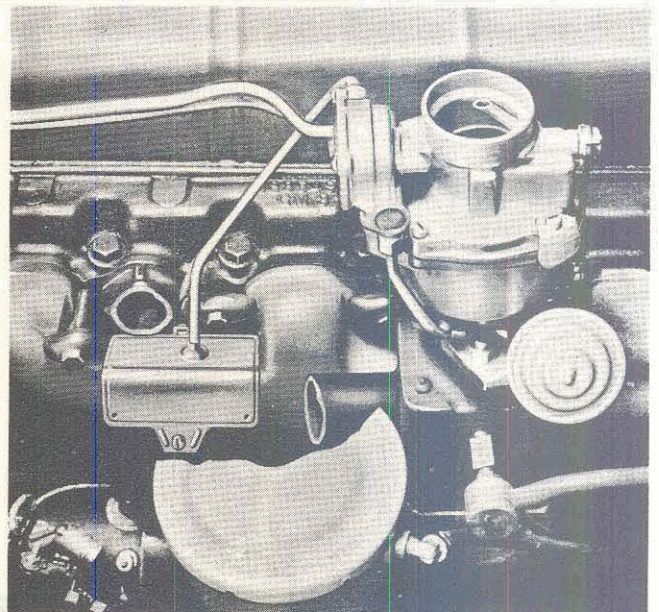

FIGURE 6
2. Mount manifold stove assembly on exhaust manifold between No. 1 and No. 2 exhaust ports so that hot air tube connection is offset slightly towards the rear of the engine (Figure 6) Do not tighten retainer screw securely until tube installation is made.